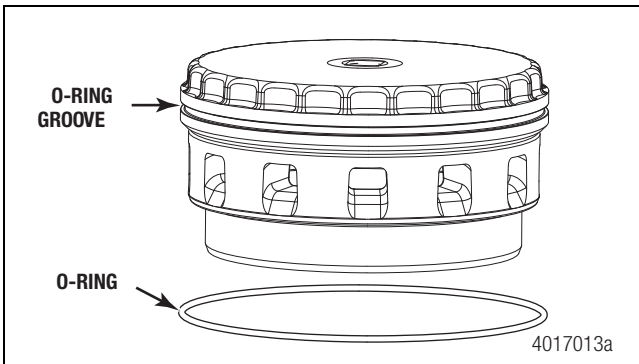

Figure 12
1. Carefully install the new o-ring, part number 5X1508, into the o-ring groove on the adjustable bearing carrier. Use a small amount of SAE 40W oil as lubricant for reassembly. Figure 12.